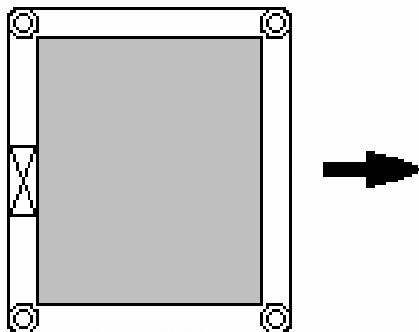

Figure 1.
STEP 5.) Inspect the Main slider for correct installation. (See Figure 1.) **NOTE:** The reinforcement tape should face the canopy and there should not be any type of hole in this slider what so ever.